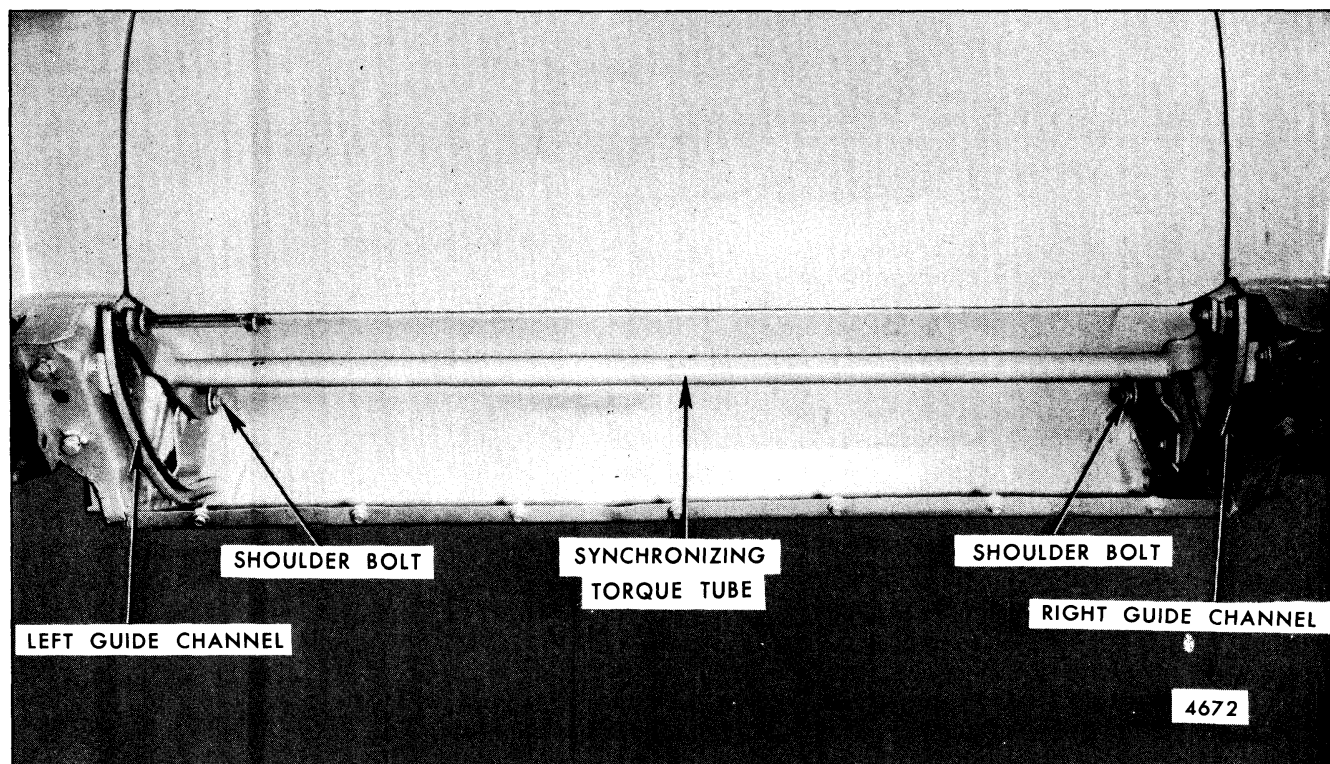

Fig. 7-104-Tail Gate Synchronizing Torque Tube and Guide Channels
lish path of travel for the tail gate (Fig. 7-104). Each guide channel assembly consists of a curved channel and mounting brackets. A pivot link is used at the rear of each assembly to accommodate the synchronizing torque tube. The guide channel bracket attaching holes are elongated to provide fore-aft adjustment for the lower portion of the gate (Figs. 7-82 and 7-104).
2. Remove right and left synchronizing torque tube-to-guide channel link shoulder bolts (Fig. 7-104).
4. Rotate guide channels downward at rear for clearance to allow disengagement of right and left torque rollers from upper end of guide channels (Fig. 7-104).